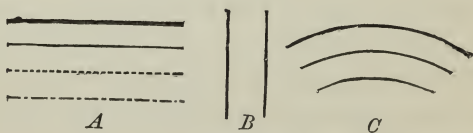

Fig. 26.
A *straight line* or a *right line* is the shortest distance from one point to another. In drawing heavy lines are called "strong," and light ones "fine." Dotted lines are also used for various purposes. Those formed of different-sized dots (principally employed on plans) are termed "chain lines." At A (Fig. 26) the top line is "strong,"
A *curve* or curved line constantly changes its direction, and is, therefore, nowhere straight (c, Fig. 26). Curves are infinitely variable, and may be *simple* or *compound*. Curved lines may be parallel. When they are parts of different circles struck from the same centre they are termed *concentric* (c, Fig. 26).
*Parallels* or *parallel lines* are those which are everywhere the same distance apart, and which if *produced* or lengthened for ever, would never meet (see A and B, Fig. 26).